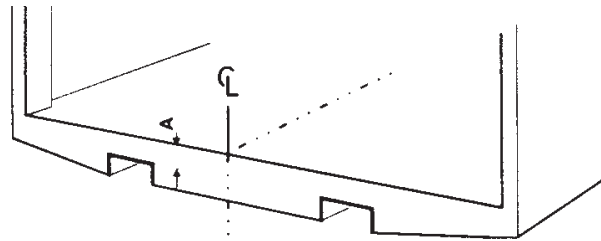

Figure 26. Measure and mark the midpoint of the rear beam of the vehicle
1. Measure and mark the midpoint of the vehicle's rear beam. See Figure 26.